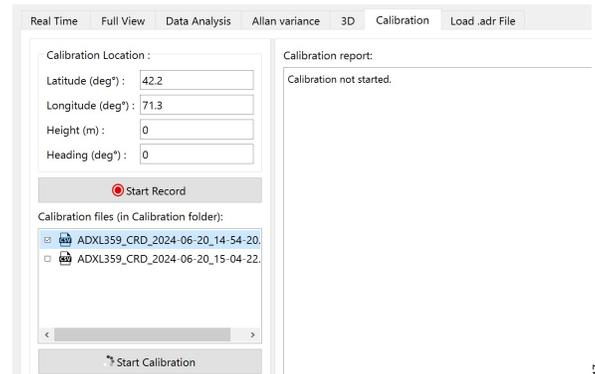

Figure 17. Calibration File Example
4. Stop the recording. A .csv file with the naming convention **SensorName_CRD_year-month-day_hour-minute-second** is created, as shown in Figure 17, where the sensor connected is the **ADXL359**. This file contains the time domain data from start to finish of the recording.